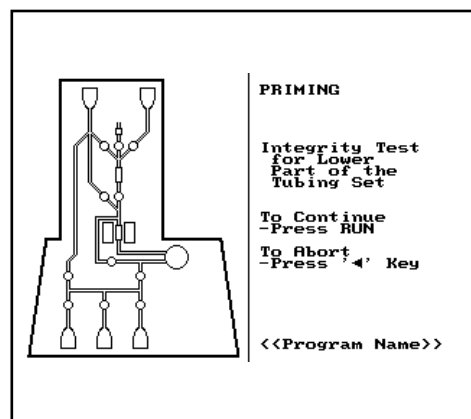

Figure 24: Screen no. 15.
3. The window will display screen 15 as shown in figure 24.